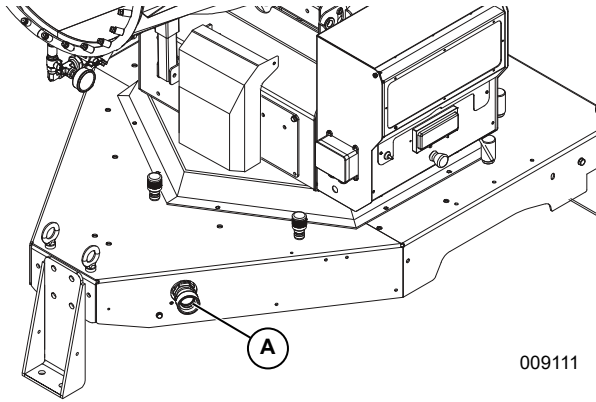

Figure 2-6. Water Connection
2. See **Figure 2-6**. Connect a hose to 1" water inlet (A) and hand-tighten.